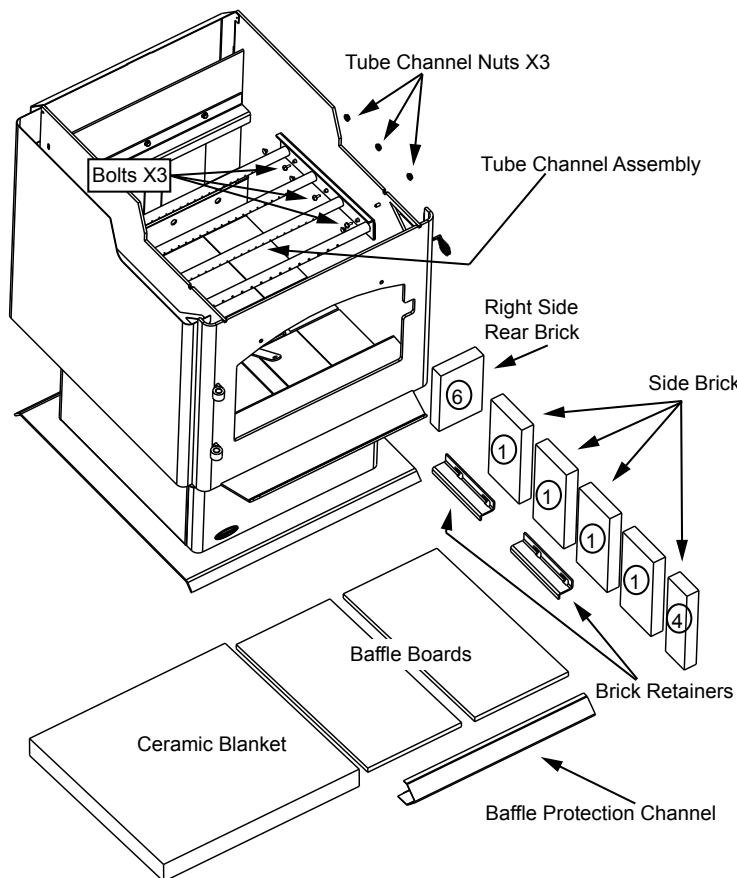

Figure 23.2
1. Remove the right side shield by removing three (3) Phillips screws from back of appliance; then pull back of side out and push back on side.
2. Remove four (4) Phillips screws from channel access cover and remove cover.
3. Locate three (3) channel nuts inside of chamber and remove using a 7/16 socket wrench (**Figure 23.2**).
4. Inside of firebox, remove the right five (5) side bricks and one (1) right rear brick (**Figure 23.2**).
5. Remove the two (2) brick retainers by sliding back and then up (**Figure 23.2**).
6. Remove the baffle protection channel by rolling forward and out of the firebox (**Figure 23.2**).
7. Remove three (3) bolts from inside fire box (**Figure 23.2**).